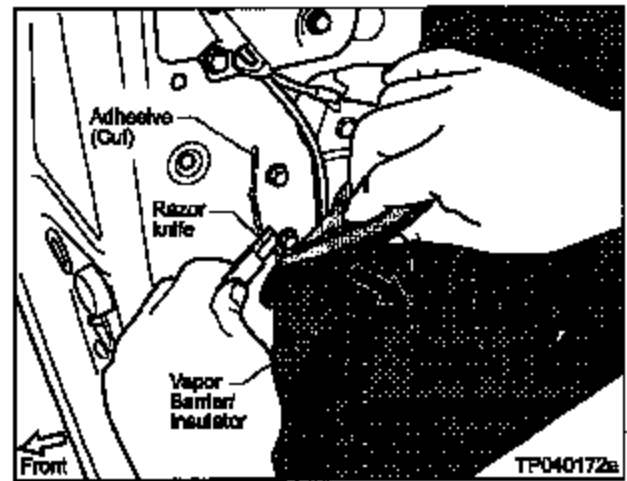

Figure 6
- a. Starting at the front vertical end of the Sliding Door, use a razor knife to carefully cut the adhesive that holds the Vapor Barrier/Insulator to the door (see Figure 6).